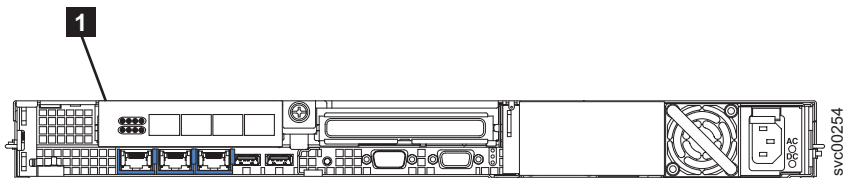

Figure 200. Rear view of the SAN Volume Controller 2145-8G4 with fibre-channel ports indicated
4. Replace the cables that were removed from the node, and make sure that you replace the fibre-channel cables in the same ports from which they were removed. Figure 200 shows the location of the fibre-channel ports.